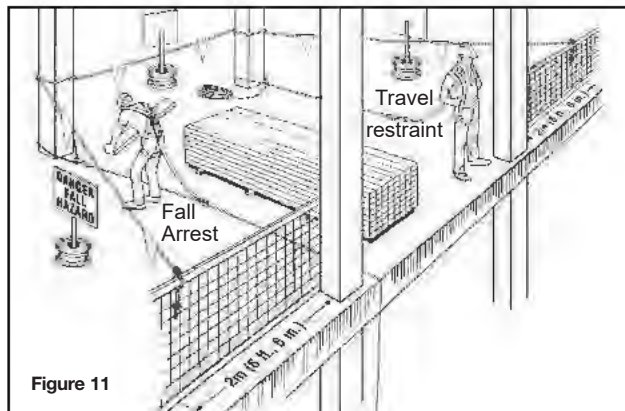

Figure 11
- When guardrails must be removed to land, unload, or handle material, wear fall-arrest equipment (Figure 11). The area must also be roped off with warning signs posted.